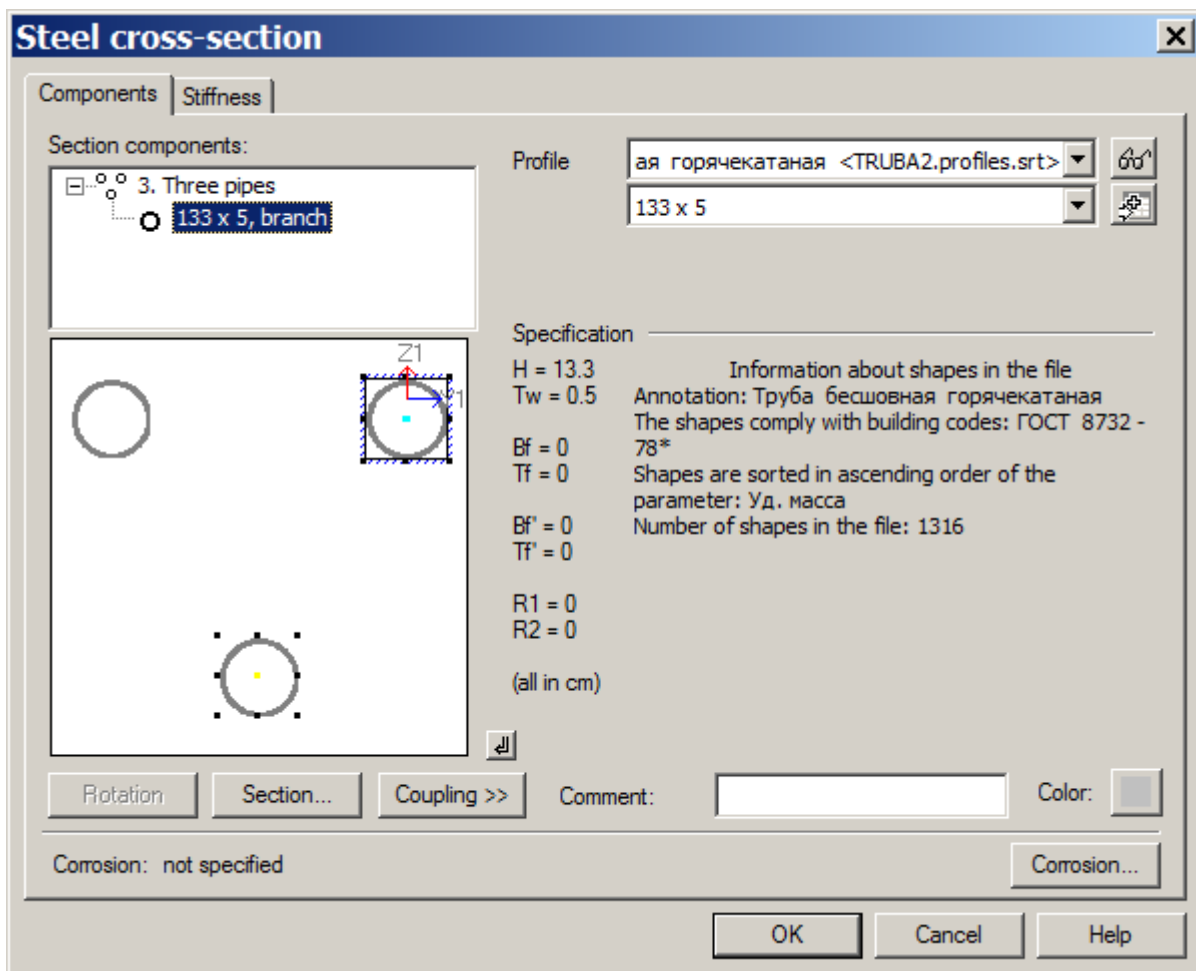

Figure 8.10 Steel cross-section dialog box
- ⇒ In the **Steel cross-section** dialog box, select **branch** and specify the following parameters for **Three pipes** section (see Fig.8.10):